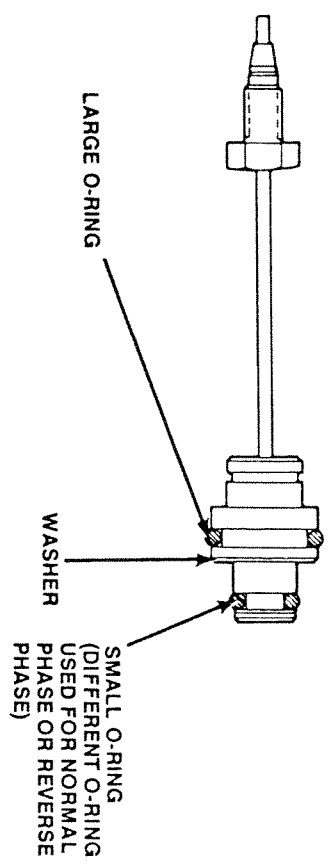

FIGURE 3-2 RCM 8 x 10 MODULE STAINLESS STEEL CONNECTOR ASSEMBLY (The black cap and E-ring are not shown in the diagram.)
**NOTE:** Refer to Figure 3-2 if you are installing the optional stainless steel connectors.